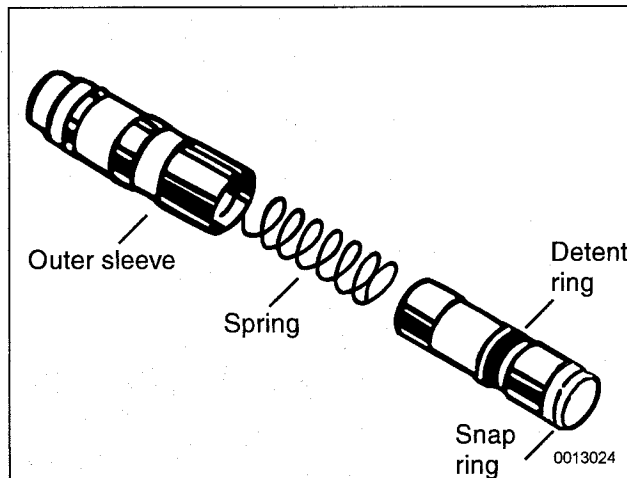

Fig. 22. Disassembled chain tensioner for M42 engine.
14. On M42 engine: Disassemble chain tensioner by striking outer sleeve against a solid object. This will release snap ring and tensioner will separate. See Fig. 22.